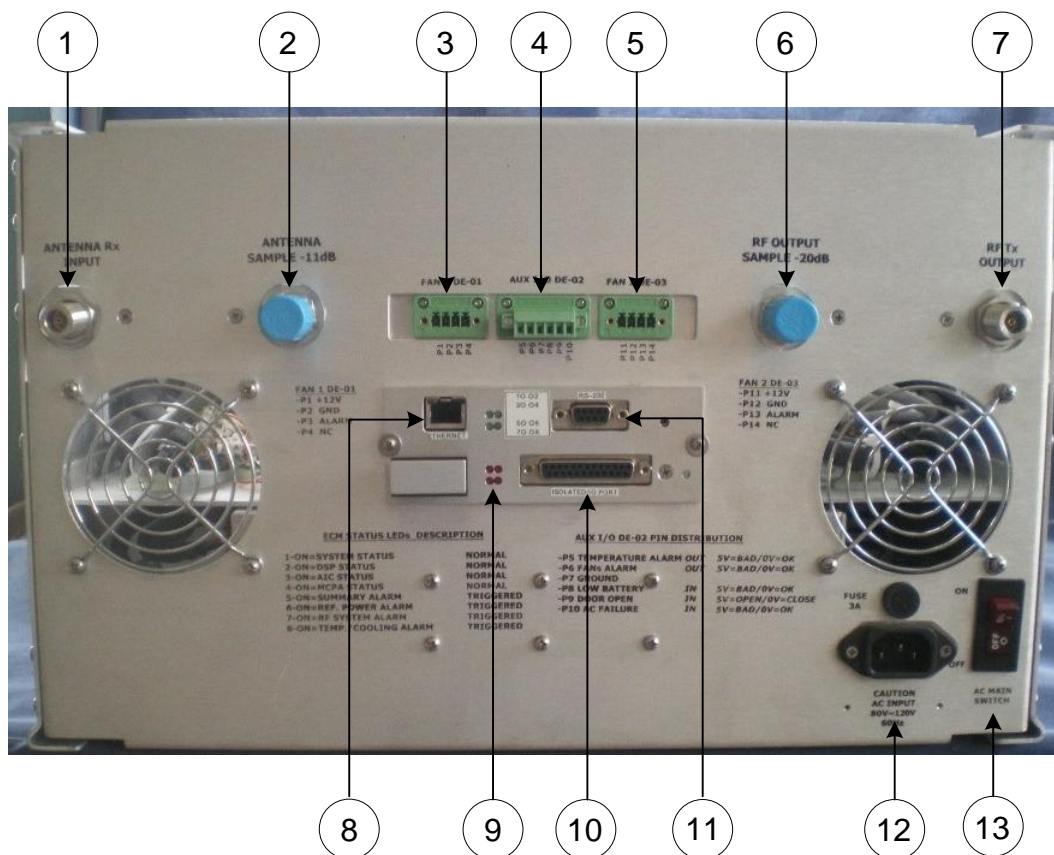

Figure 3 - Rear Panel details.
Figure 3 shows the connectors and visual status that the D.U.T rear panel has. A brief explanation of each connector is given in Table 2.
1. Use an Ethernet crossover cable for connect equipment directly to a PC computer LAN port (refer to Item #8 in Figure 3).
1. Use a coaxial cable to connect the test instrument to D.U.T. RF Tx Output Port (refer to Item#7 in Figure 3).
3. Use a coaxial cable to connect the RF generator output to D.U.T. Antenna Rx Input Port (refer to Item #6 in Figure 3).